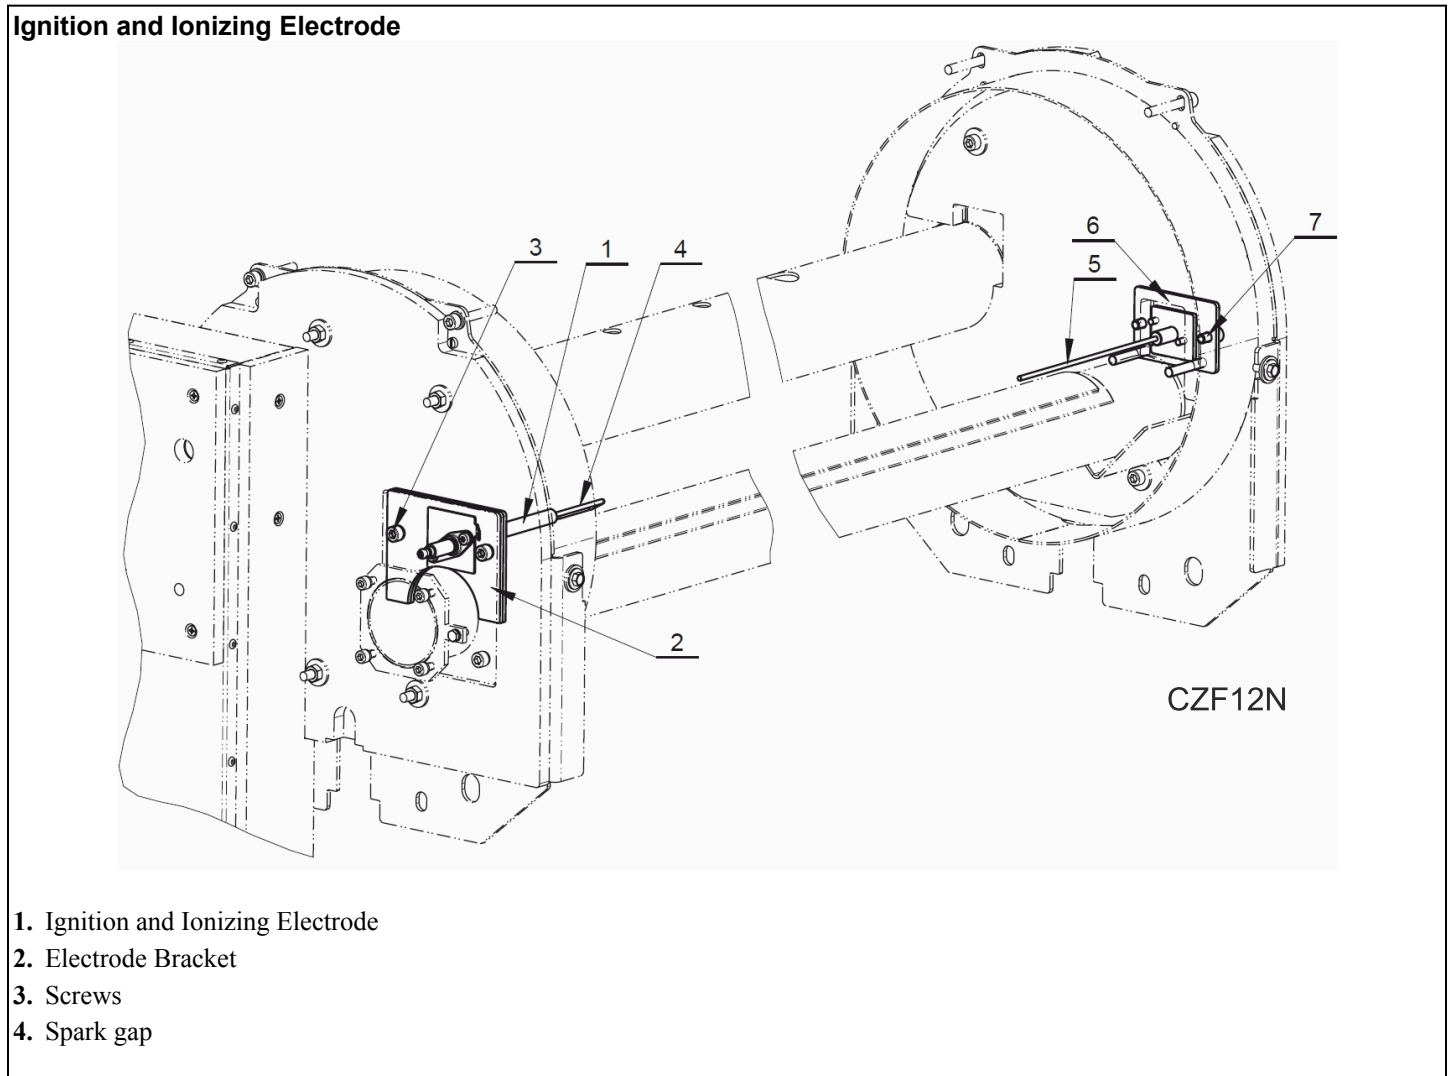

Figure 55
- The electrode (4) is a component which serves the purpose of (with gas heated machines):
- Machine versions with the combined function of electrode – the electrode (4), installed on the left side serves the purpose of flame detection during which there is electric current between the electrode tips due to ionised air.
- Machine versions with the separate functions of electrodes - the autonomous detection electrode (5), installed on the right side saves the purpose of flame detection during which there is electric current between the tip and grounded burner due to ionised air.
- The electrode (1) – *Figure 55*, is installed in the electrode bracket (2) which is, as a whole unit, fixed by means of two screws (3) to the left face of the combustion chamber. Its only entrance to the open space is through the connector termination. For inspection or replacement purposes, the entire unit must be removed after the screws (3) have been disassembled.
- their distance in the spark gap (4) is correct.
**NOTE: The spark discharge must occur in the spark gap (4) only.**
- Autonomous detection electrode (5) - refer to *Figure 55*, if used, is installed in an electrode bracket (6), which is, as a whole, secured by two screws (7) in the front right section of the combustion chamber. In case that it is necessary to carry out inspection or replacement, the entire unit of igni-